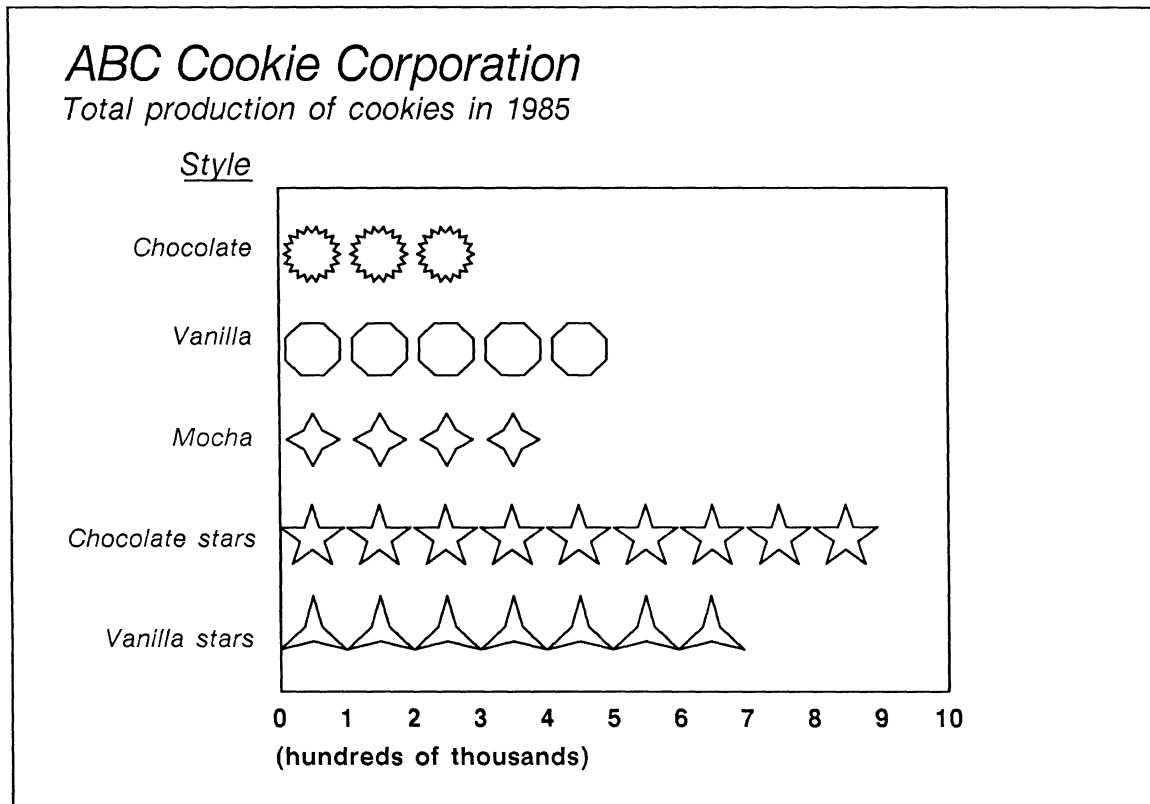

Figure 29-31. Finished chart
- ✓ Select the chart and **Cut** it. The chart will now look like the one shown in Figure 29-31, before the text was added.